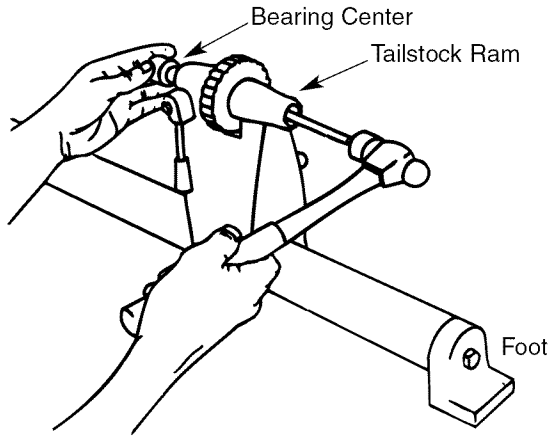

Figure 5
- To remove bearing center from tail stock ram, insert a $\frac{1}{4}$ " wood dowel or brass rod through the hole in the tailstock ram. Hold the center with one hand and tap the dowel or rod with a hammer. Refer to Figure 5, page 5.